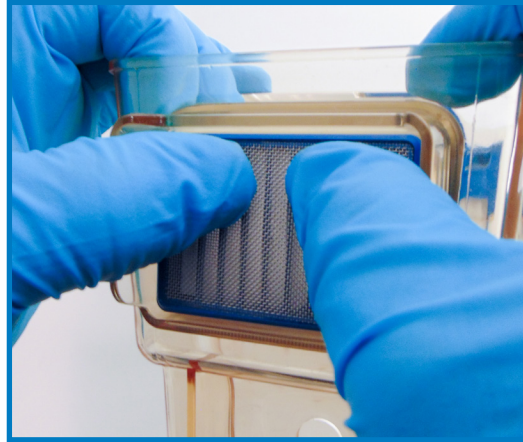

Figure 1
1. From the outside of the cage, push the filter out with both thumbs (Figure 1).